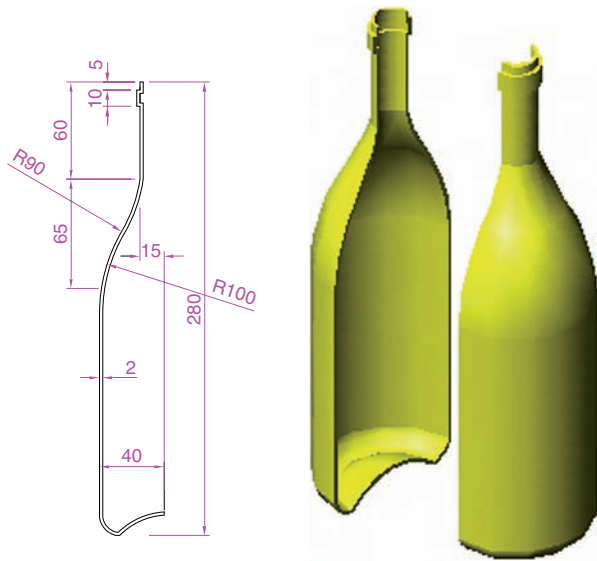

Fig. 15.26 Second example – Slice
Second example – Slice (Fig. 15.26)
1. Construct the closed pline (Fig. 15.26) and with the **Revolve** tool, form a solid of revolution from the pline.